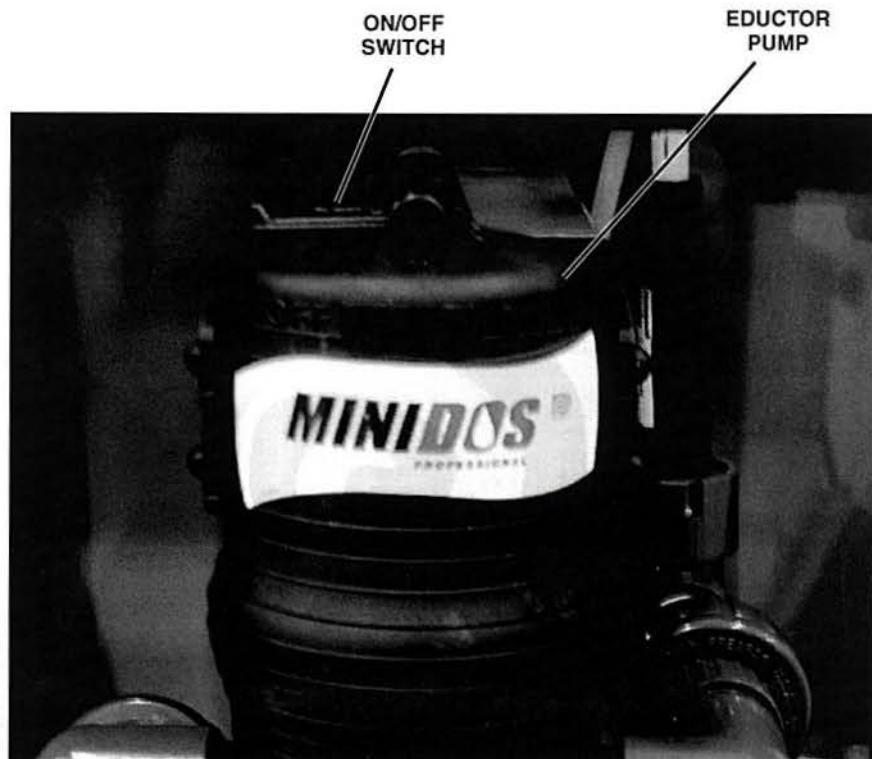

Figure 52. On/Off Switch on Eductor Pump
- 5. Locate the On/Off switch on the eductor pump, shown in figure 52, and place it in the Off position.